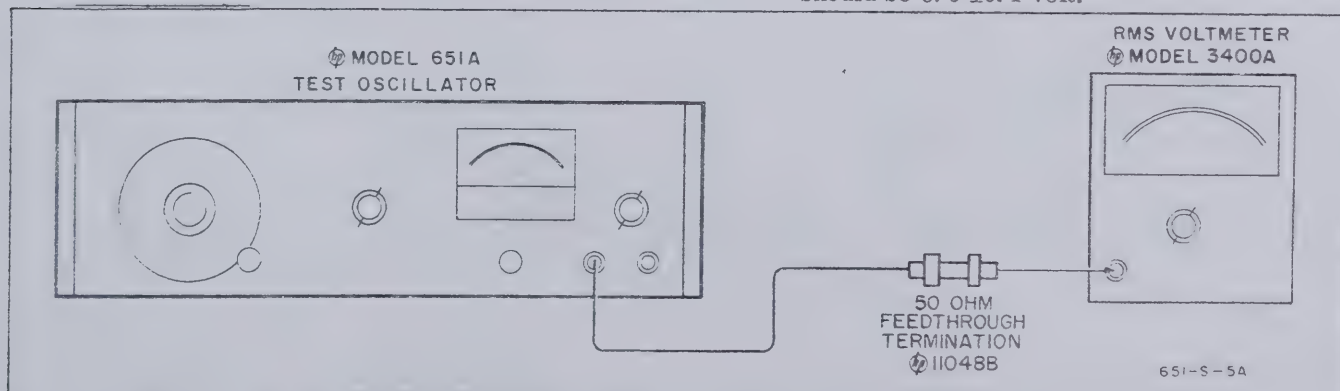

Figure 5-2. Output Meter, Amplitude Control, Output Voltage, and Hum and Noise Check
- a. Connect Model 651A as shown in Figure 5-2.
- Connect Model 651A as shown in Figure 5-2.